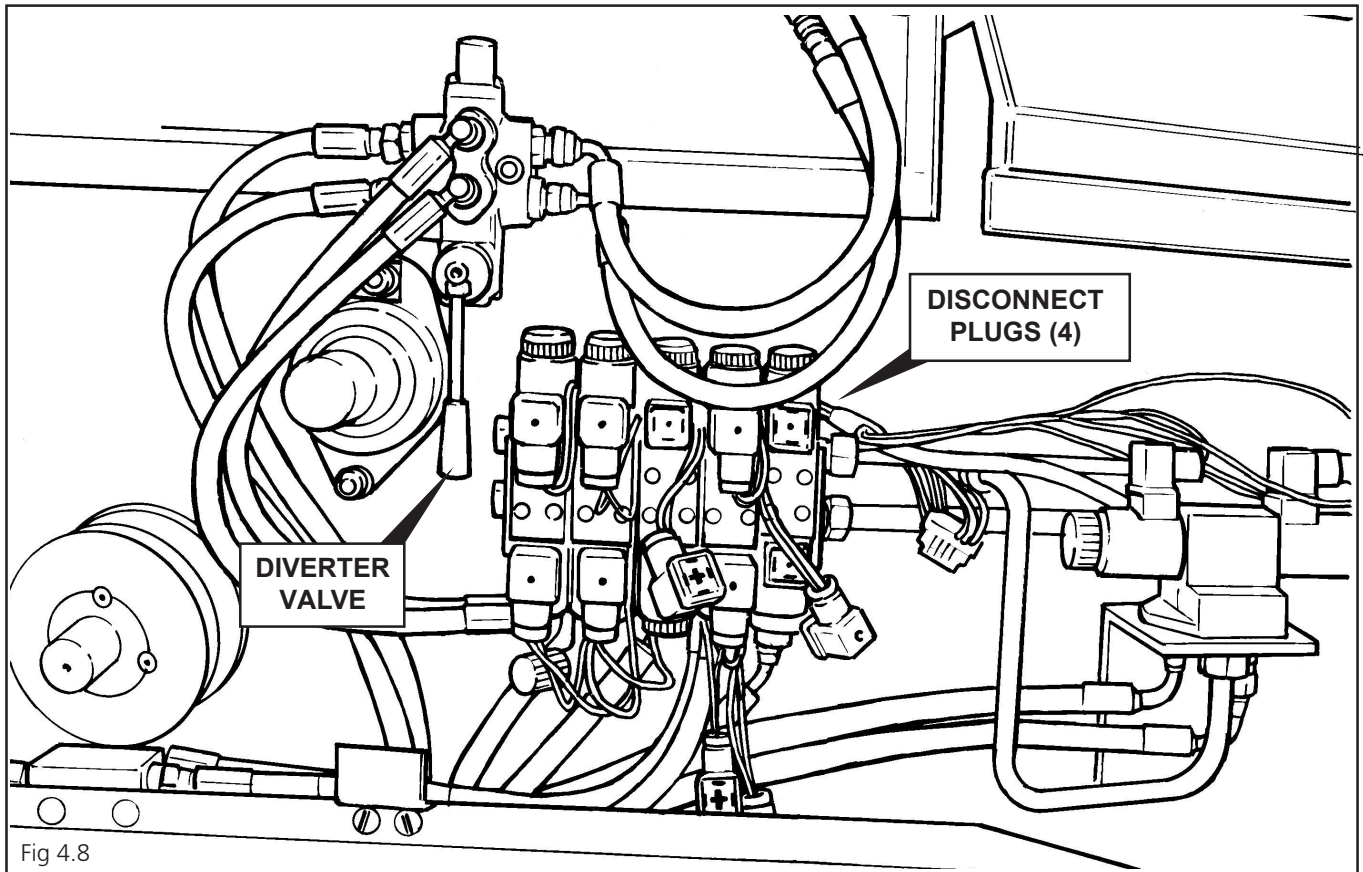

Fig 4.8
- **Note:** Disconnect the solenoid plugs for Rear Lift and Levelling services (2 black plugs and 2 white plugs), see Fig 4.8). These plugs must be removed from the solenoids prior to operating the elevator in order to disable lift and levelling functions.